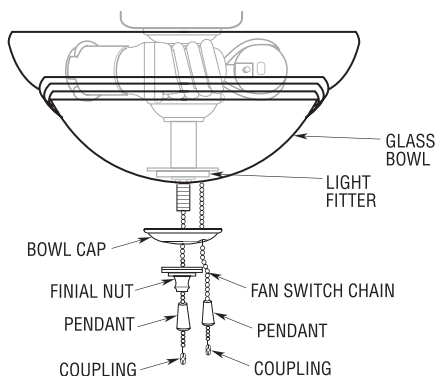

Figure 4
16. Gently place the glass bowl onto the base of the light fitter (Figure 4) with the switch chain(s) passing through the center hole.
18. Install the finial nut onto the threaded light fitter by passing the fitter switch chain through the center hole in the finial nut. Firmly tighten the finial nut onto the threaded nipple of the light fitter (Figure 4).